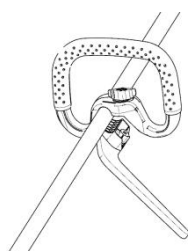

Fig.5
1. Push the loop handle onto the shaft, push the upper and lower parts together, tighten the handle by rotating the loop handle knob in clockwise direction (Fig. 5&6).